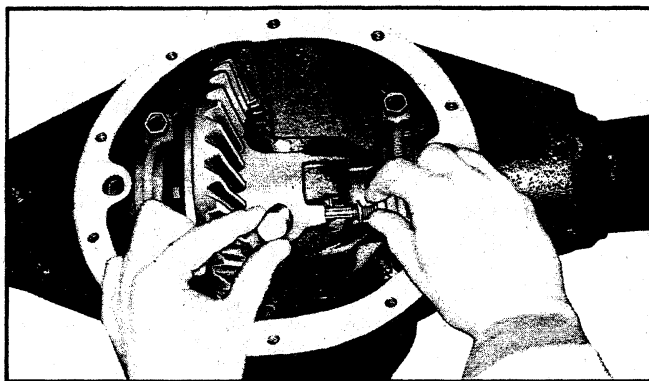

Fig. 77—Differential Pinion Shaft Removal
4. Remove the differential pinion shaft lock screw and the differential pinion shaft (fig. 77).